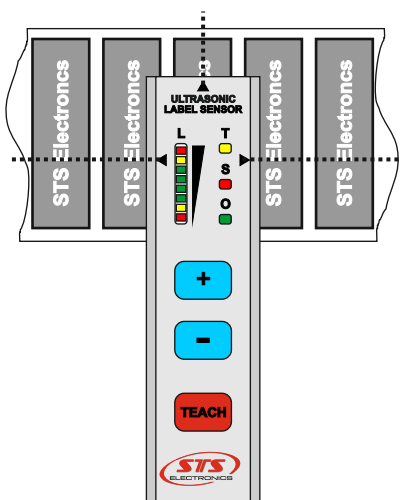

Fig. 8.2
3. Position the label stock on a label - Fig.8.2.